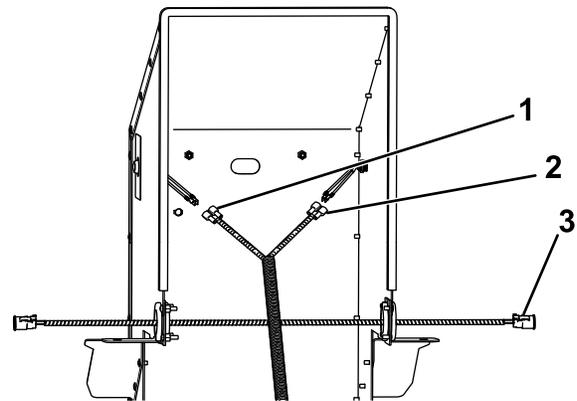

Figure 6
14. Connect the white and brown spade connectors on the kit wire harness to the light button (Figure 6).
15. Route the light connectors through the grommets on either side of the rear cover (Figure 6).